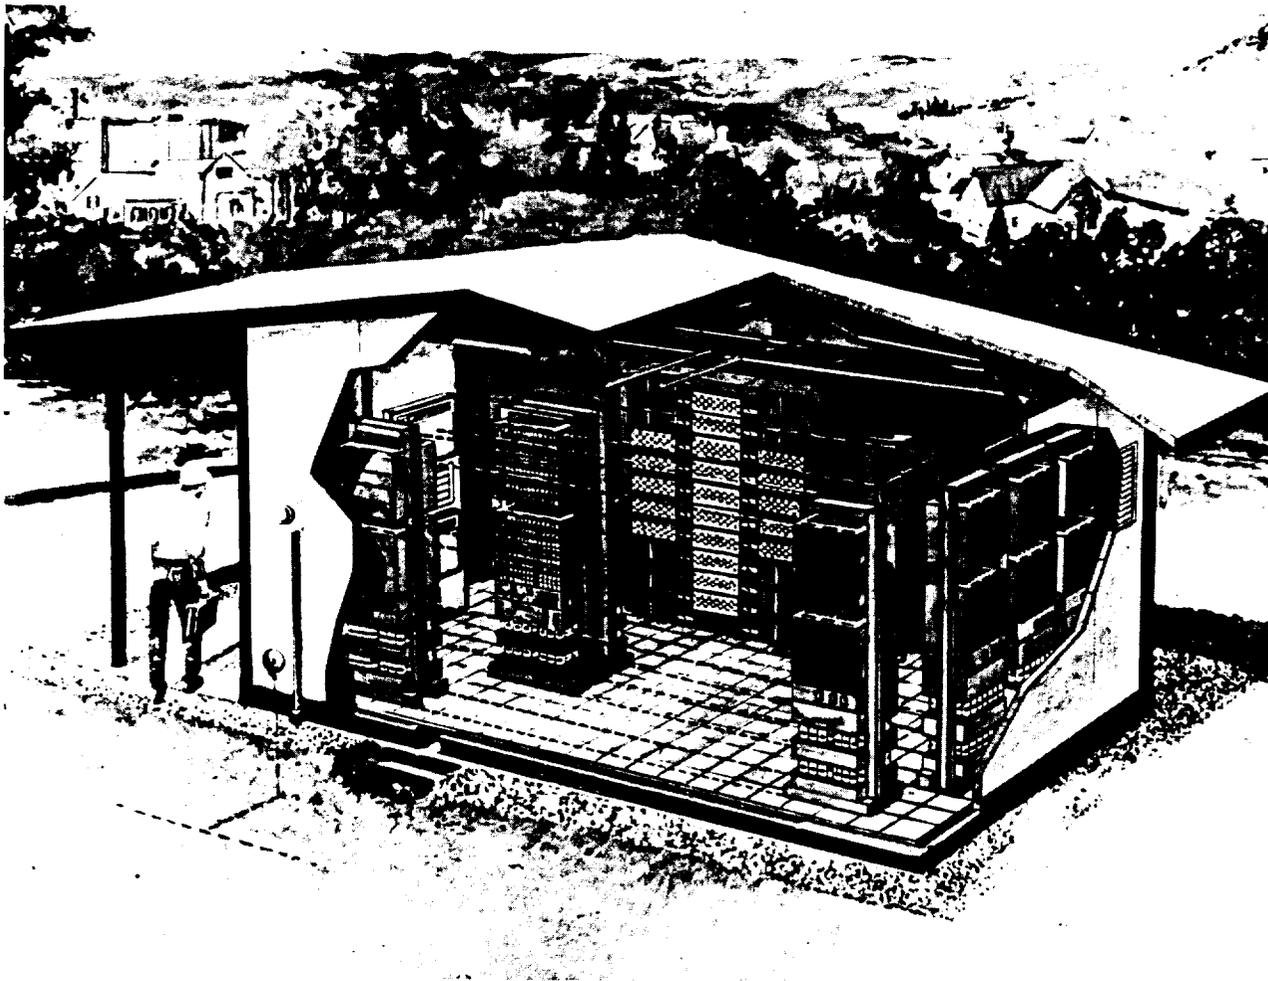

Figure 2. *COSMIC* Mini DF - Hut Application
3.04 Typical applications of *COSMIC* Mini DFs include small central offices or community dial offices, controlled environment vaults (CEV), mini and maxi huts, and customer premises. Figures 2 and 3 show the *COSMIC* Mini DF in a hut and a CEV application.
4.12 Note that the applications depicted in Figures 2 and 3 both included a CRF.